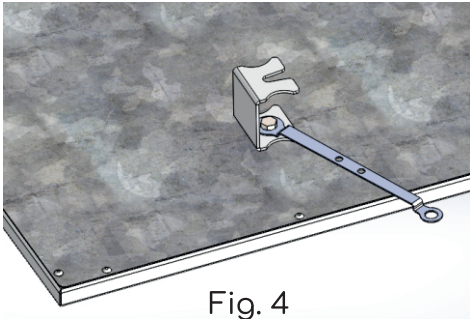

Fig. 4
9. After installation, turn 2 brackets by 180° (see Fig. 4).
10. Using the wrench, tighten all wood screws and screws (see Fig. 4).